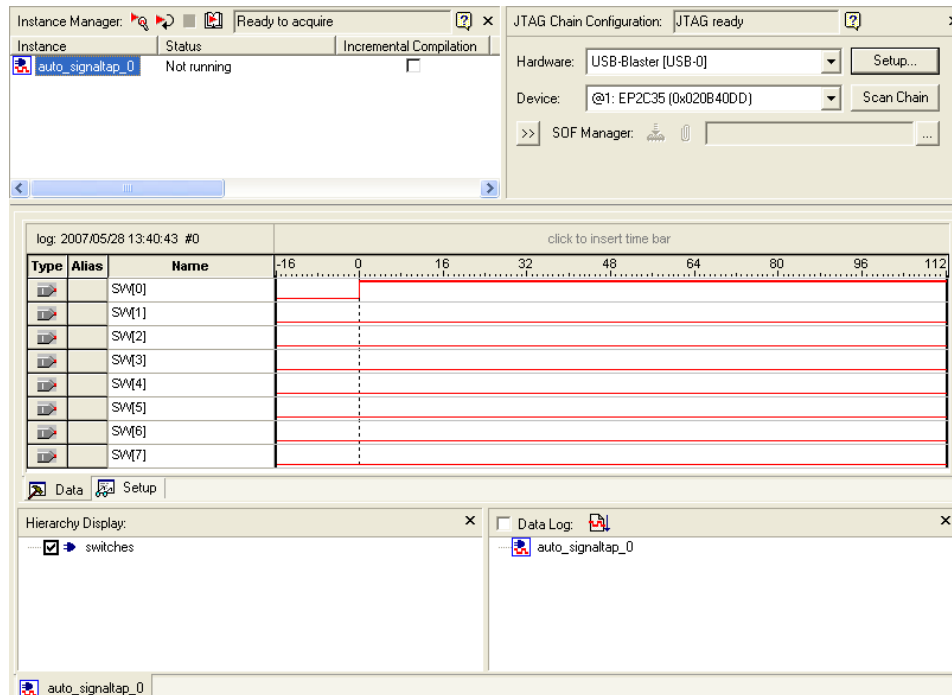

Figure 15. Graphical display of values after trigger condition is met.
- Now, to observe the trigger feature of the Logic Analyzer, set Switch 0 on the DE2 board to high. The data window of the SignalTap II window should display the image in Figure 15. Note that this window shows the data levels of the 8 nodes being tapped before the trigger condition was met and also after. To see this, flip on any of the switches from 0-7 and then click Run Analysis again. When switch 0 is set to high again, you will see the values of the switches displayed on the SignalTap II Logic Analyzer.